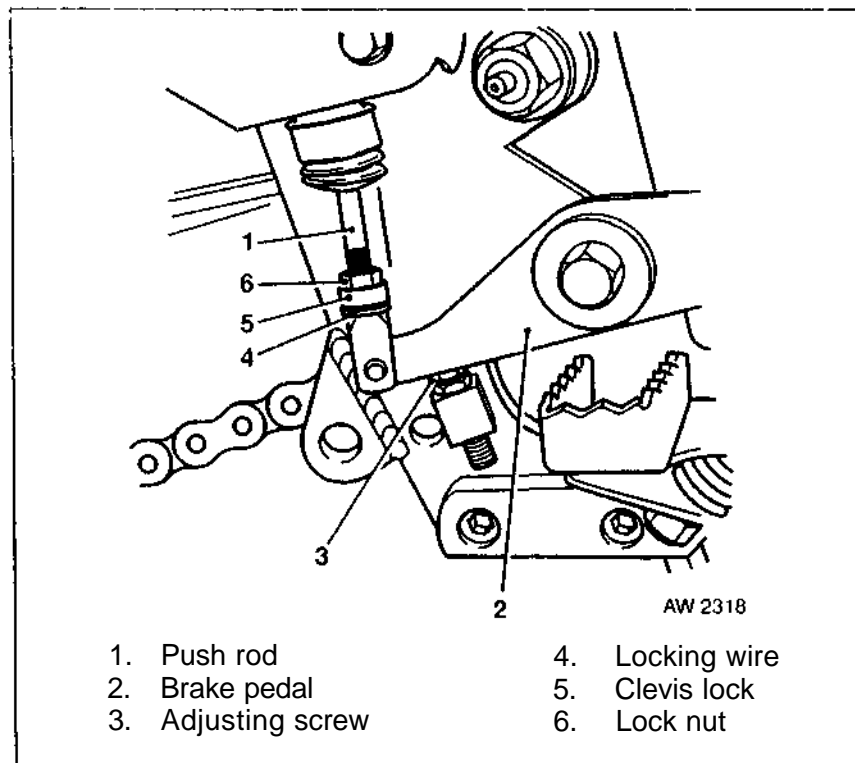

Fig 12.3 Free Play Adjustment
(2) Fig 12.3 refers. Depress brake pedal only as far as necessary for push rod (1) to contact master cylinder piston (a significant resistance can be felt). Hold pedal in this position while making adjustment in steps (3) to (7).
(3) Measure clearance between brake pedal (2) and adjusting screw (3). Clearance should be 1.6 mm ($\frac{1}{16}$ in).
(4) If clearance is not 1.6 mm ($\frac{1}{16}$ in) use long nose pliers and remove and discard locking wire (4).
- (5) Fig 12.3 refers. Remove lock wire, unsnap clevis lock (5) and swing out of way.
- (6) Loosen lock nut (6).
- (7) Lengthen or shorten push rod (1) by rotating it until clearance is 1-6 mm (A, in).
- (8) Tighten lock nut (6).
- (9) Snap clevis lock (5) over clevis.
- (10) Install new lock wire (4).